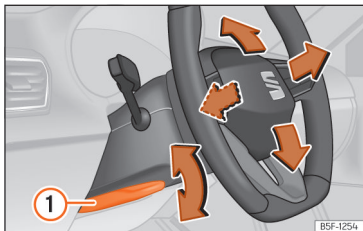

Fig. 60 Lever in the lower left side of the steering column.
- Pull lever >>> Fig. 60 ① down, move the steering wheel to the desired position and lift the lever back up until it locks.
- After adjusting the steering column, push lever >>> Fig. 60 ① firmly upwards so that the steering wheel does not accidentally change position while driving.